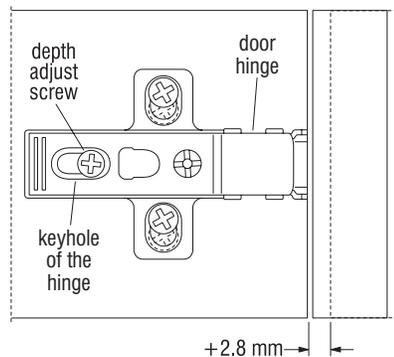

Figure 11 - Door Depth Adjustment
2. For **door depth adjustment**, first loosen the depth adjust screw, then slide the key hole of the hinge to the desired location. Re-tighten the screw (Figure 11).